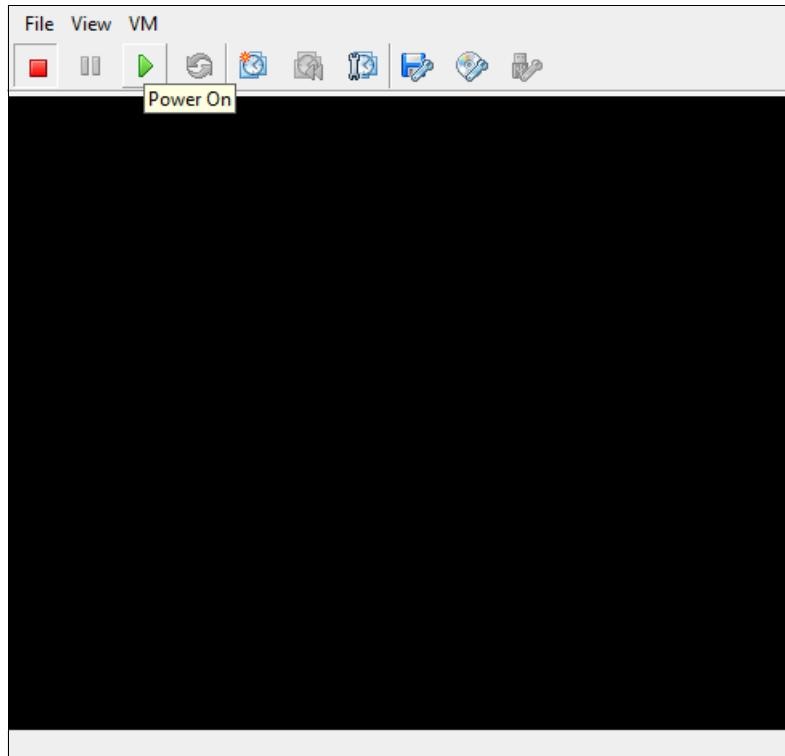

Figure 3-66 Boot the VM
19.Click the **Power On** button (Figure 3-66) to boot the VM.